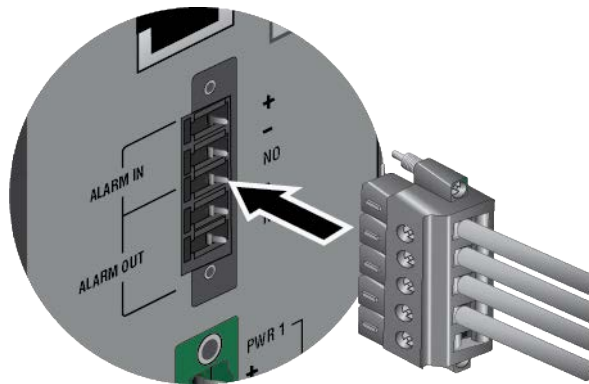

Figure 51. Inserting the ALARM IN / ALARM OUT Plug into the Connector
9. Insert the ALARM IN / ALARM OUT plug into the connector on the switch. Refer to Figure 51.